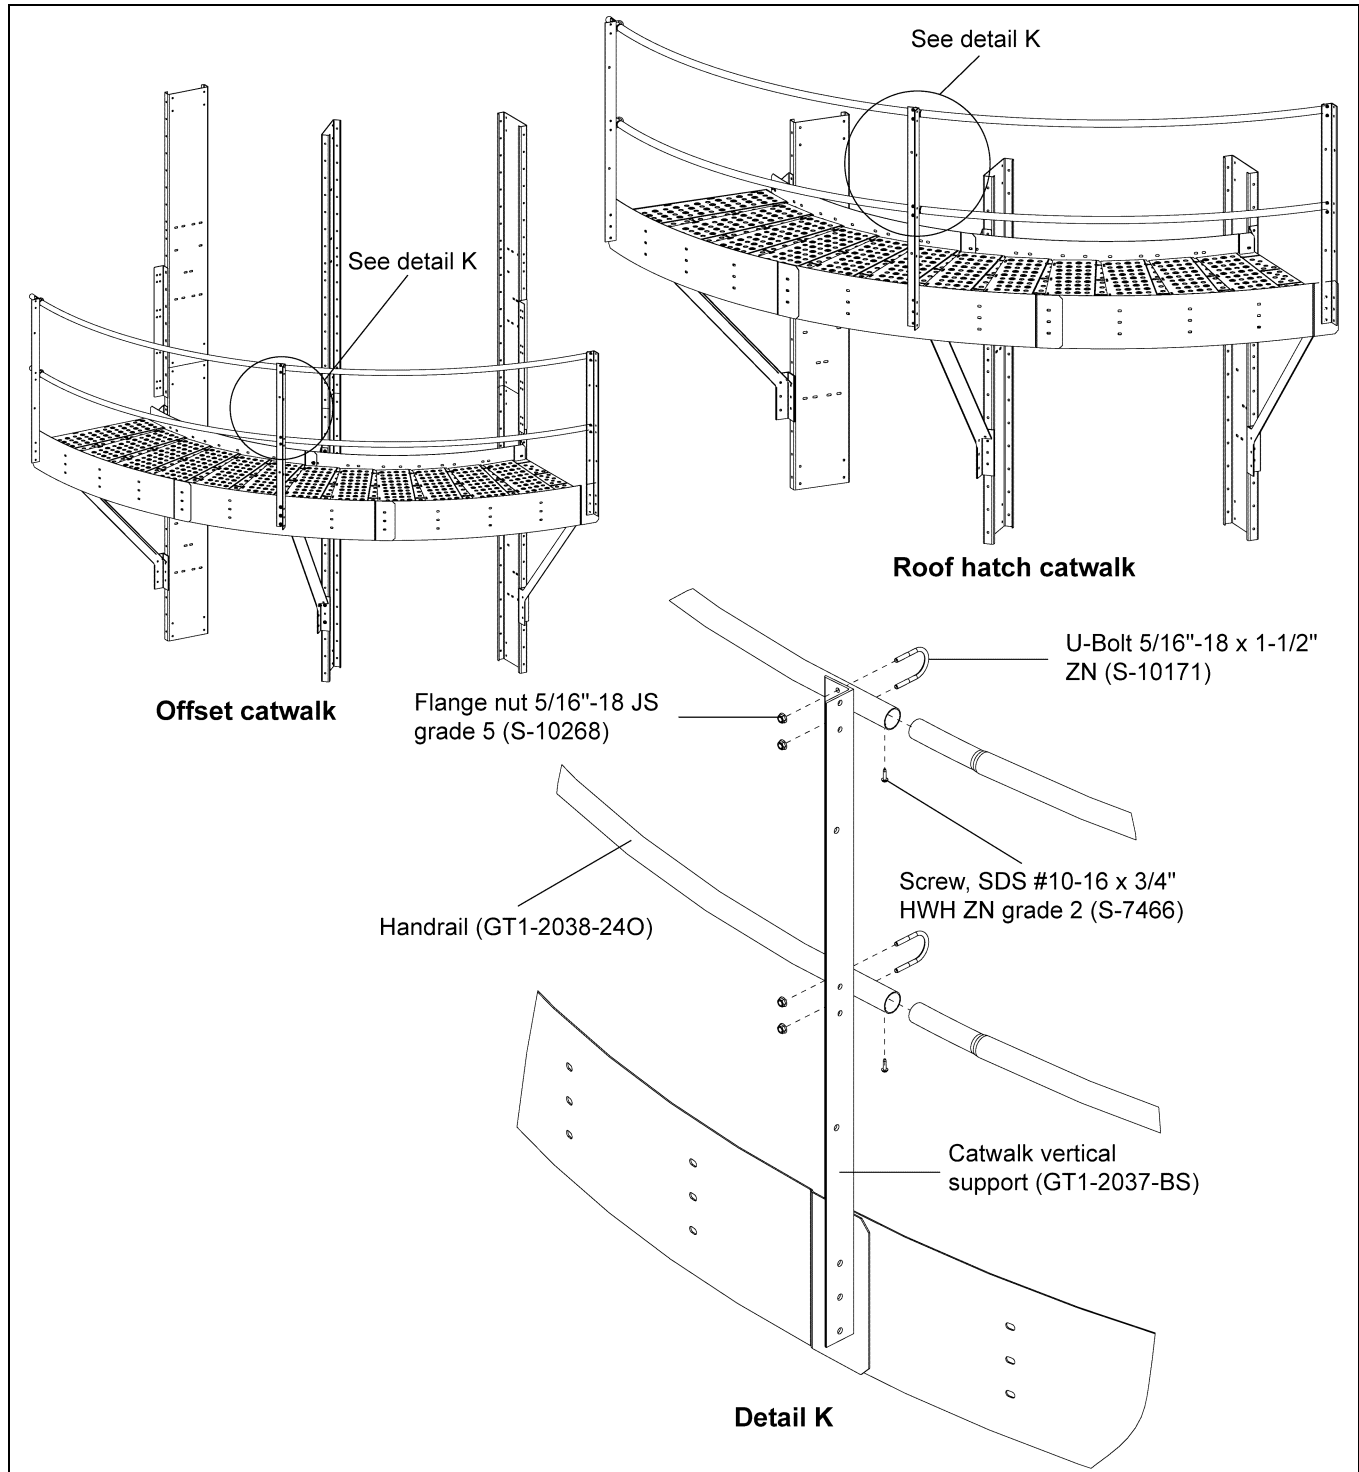

Figure 6U Handrail (GT1-2038-24O) Installation for Offset and Roof Hatch Catwalks
1. Install the long handrail (GT1-2038-24O) to the catwalk vertical support (GT1-2037-BS) using 5/16"-18 ZN U-bolts (S-10171) and 5/16"-18 JS grade 5 nuts (S-10268) to tighten the handrail with vertical post. *(See Figure 6U.)*
2. Use the self-tapping screws SDS #10-16 x 3/4" HWH ZN grade 2 (S-7466) at all handrail pipe joints. *(See Figure 6U.)*